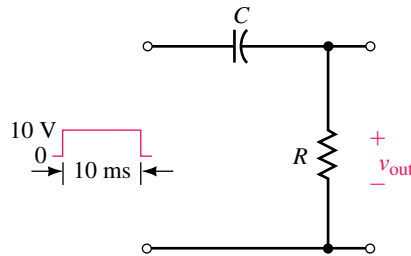

FIGURE 11-66
- A single pulse is input to the circuit of Figure 11-66. Assuming that the capacitor is initially uncharged, sketch the output for each set of values below: